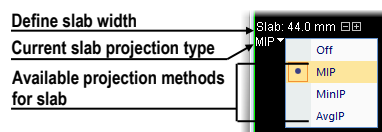

Figure 272 – Controls for defining slab in the current view
3. Select the method for the slab pixel values calculation (see Figure 272).